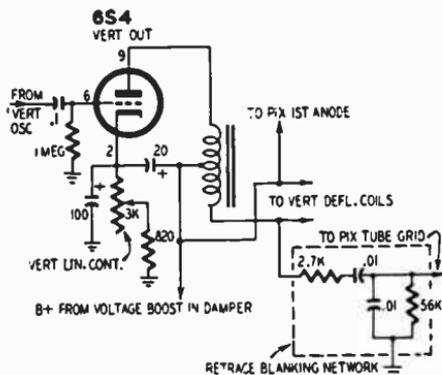

Fig. 3-B. This vertical-output circuit gets its plate voltage from the B+ boost in the damper.
**SYMPTOMS:** Low boost voltage is evidenced by abnormally low horizontal sweep, low brightness due to low high voltage, and lowered vertical sweep if the vertical oscillator or amplifier is fed from the boosted B+. A vertical-output circuit working from boosted B+ is shown in Fig. 3-B. Picture may be visible, but focus will be poor.